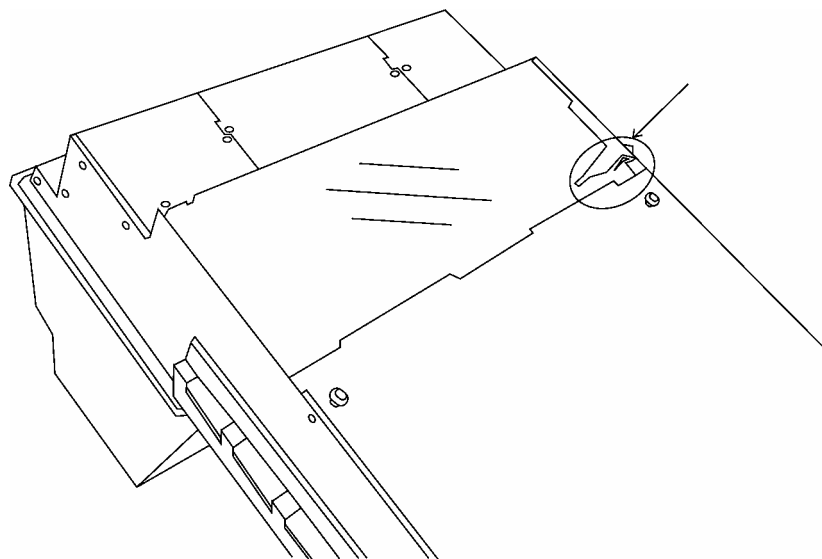

Figure 6.3-6
- (8) Pull the scale cable into area near scanner main PCB, insert cable into “slot” in plastic housing and connect to scale connector on main PCB . (See Figure 6.3-6.)